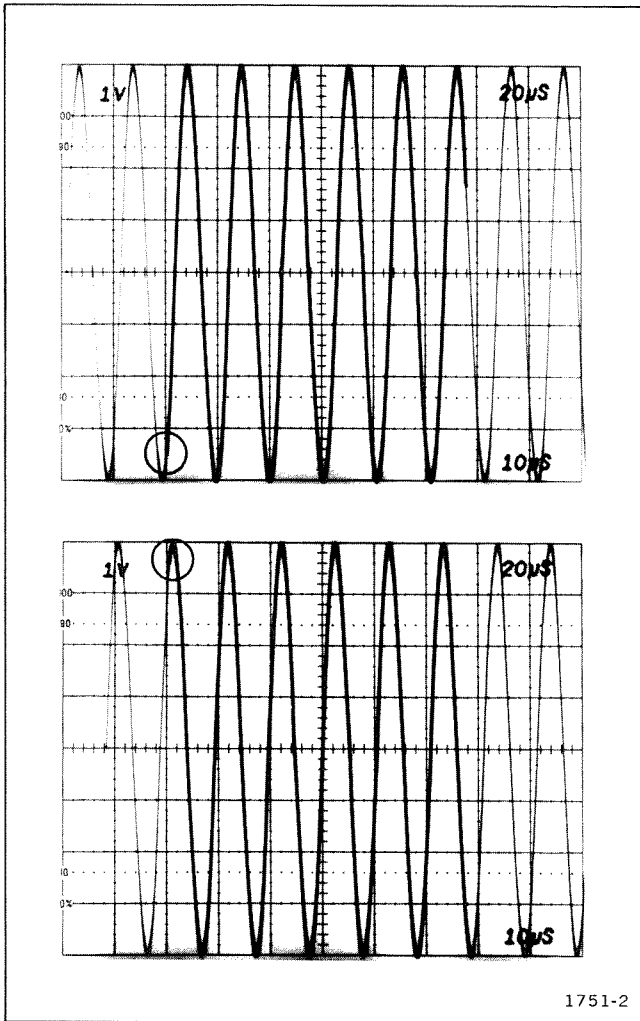

Figure 4-8. Delayed Triggering LEVEL range.
d. CHECK—Rotate Delayed Triggering LEVEL throughout its range and check that triggering occurs at least 3.5 divisions above and below graticule horizontal center line with Delayed Triggering SLOPE set to (+). (See Figure 4-8).